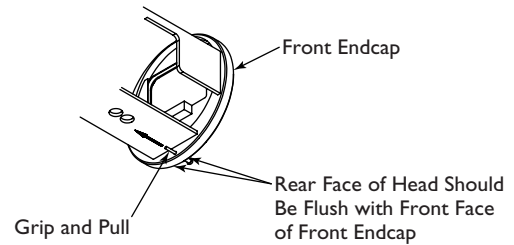

FIGURE 15 Installing the Pull Seal
4. Grip the pull seal's long end from the back of the front endcap. Steadily pull the long end until the head of the pull seal is flat against the front of the endcap (see FIGURE 15).